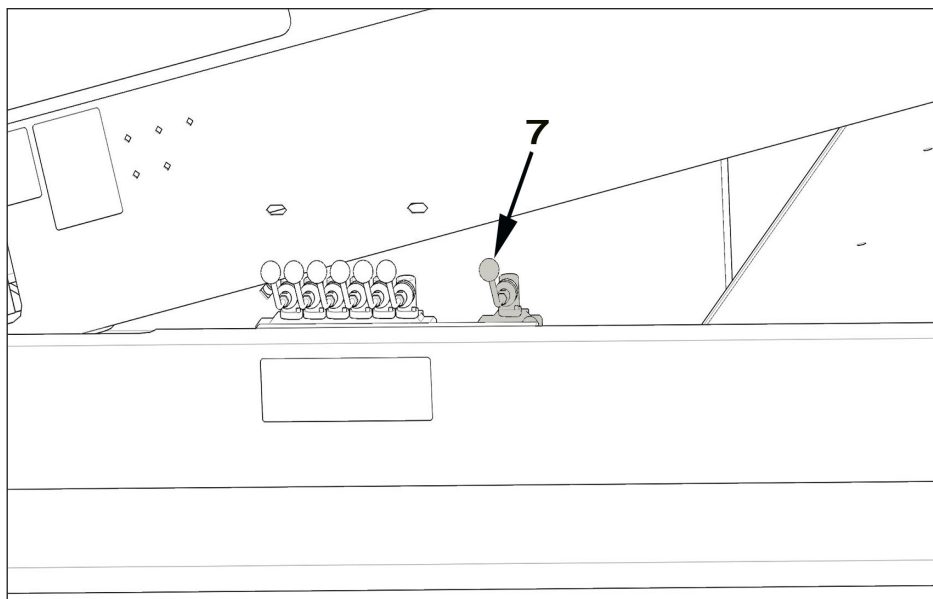

Figure 5.9 - Feeder Support Leg Lever.
2. Raise the support legs lever (7) Ref: Figure 5.9.